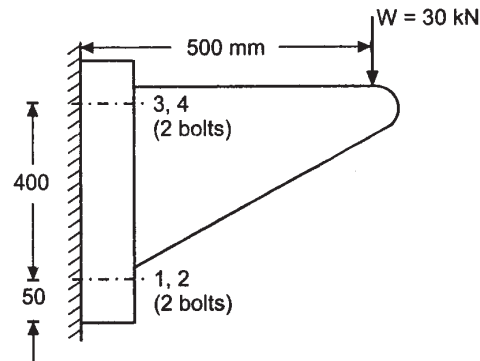

Fig. No. 3
- A bracket as shown in Figure No. 3 is fixed to the wall by means of four bolts. Find the size of the bolts; if $\sigma_f = 70 \text{ N/mm}^2$ for bolt material.